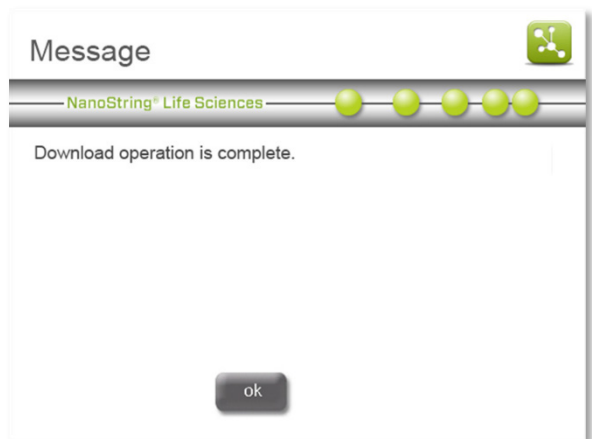

Figure 153: The 'Successful download' message screen
5. When the files have successfully downloaded, a confirmation message will appear (Figure 153). Take the USB flash drive out of the instrument and insert it into a personal computer. Contact support@nanosttring.com to open a support ticket and for guidance on submitting the log files to NanoString Support. A representative will review the log files to help determine the cause of any issues.